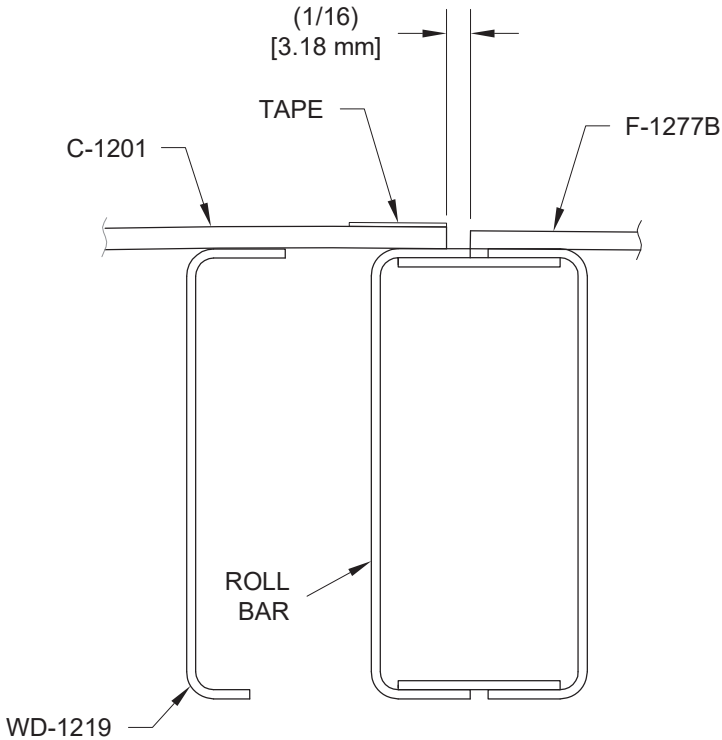

FIGURE 1: TRIMMING THE CANOPY AFT EDGE
Step 1: Machine countersink the two holes in each C-1207 Guide Block to fit the head of a #8 flush screw. See Figure 1. Countersinks that are up to .015 too deep are acceptable and are preferable to countersinks that are too shallow. Tap 8-32 the two holes in each guide block.